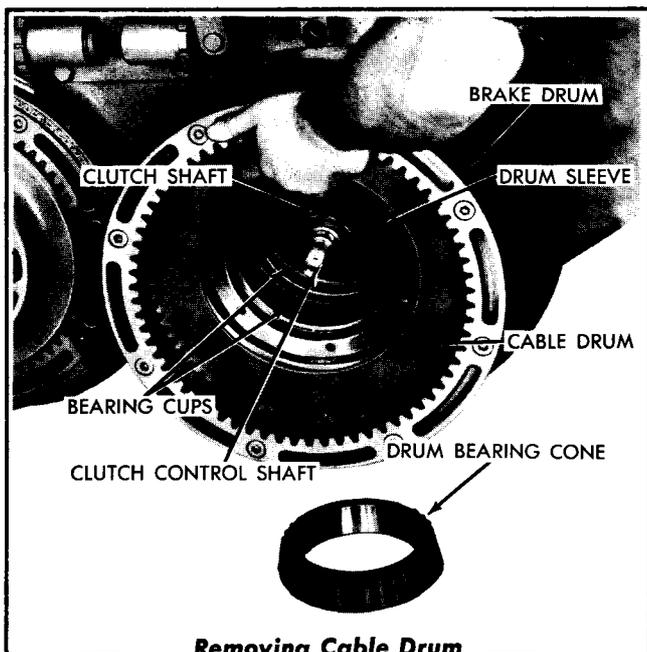

FIG. 28
8. Remove each cable drum from its drum sleeve (Fig. 28). NOTE: It may be necessary to place a wooden block against the cable drums and to strike the block with a hammer to force the rear bearing cones from the drum sleeves.